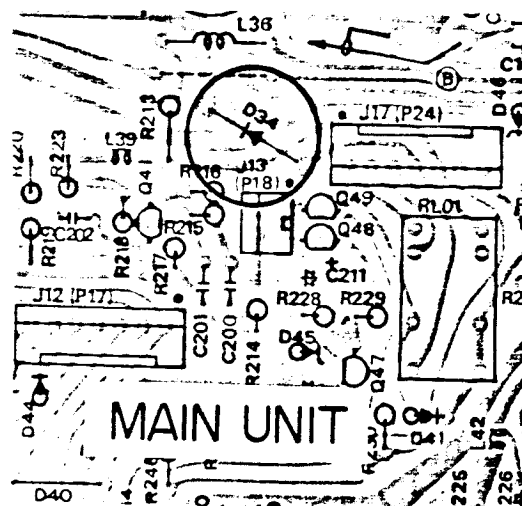

Figure 2-10
- 11) Unsolder the cathode of D₁₀₃₄ from the pattern, and pull the lead from the component side, as shown in Fig. 2-10.